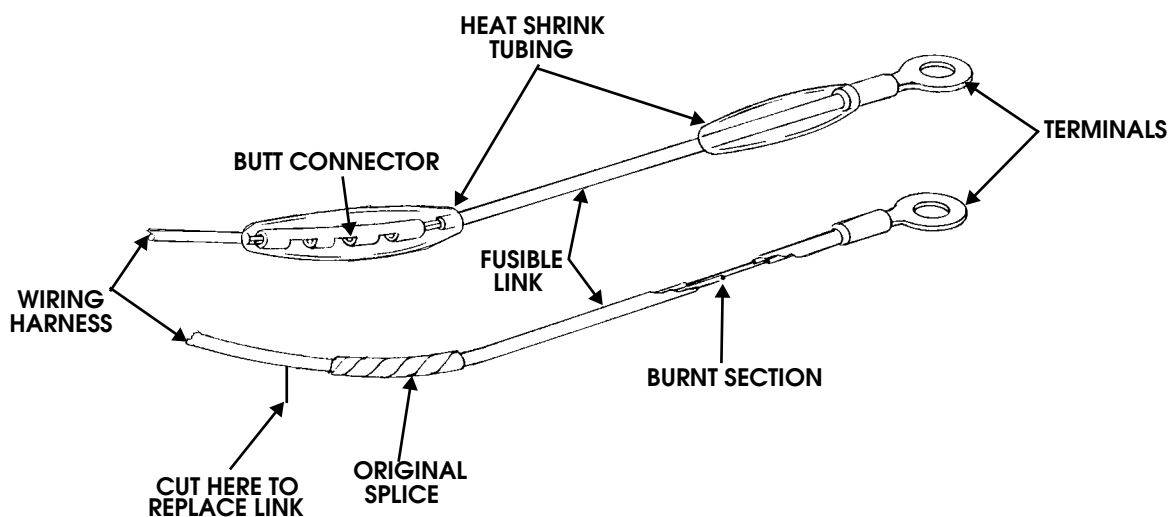

Figure 12-121: Fusible Link
3. Locate original wiring harness splice between fusible link and wiring harness (Figure 12-121).